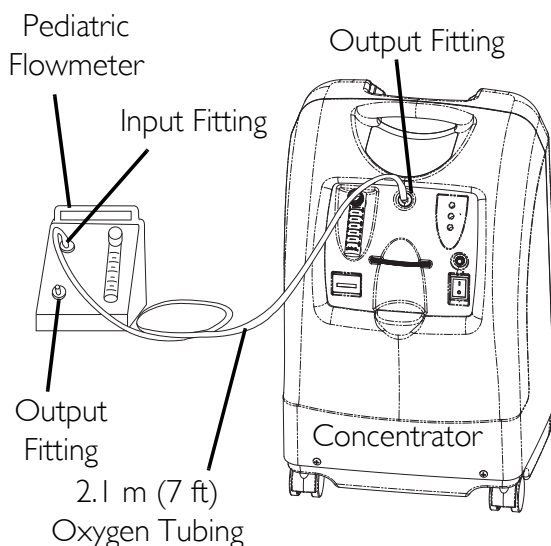
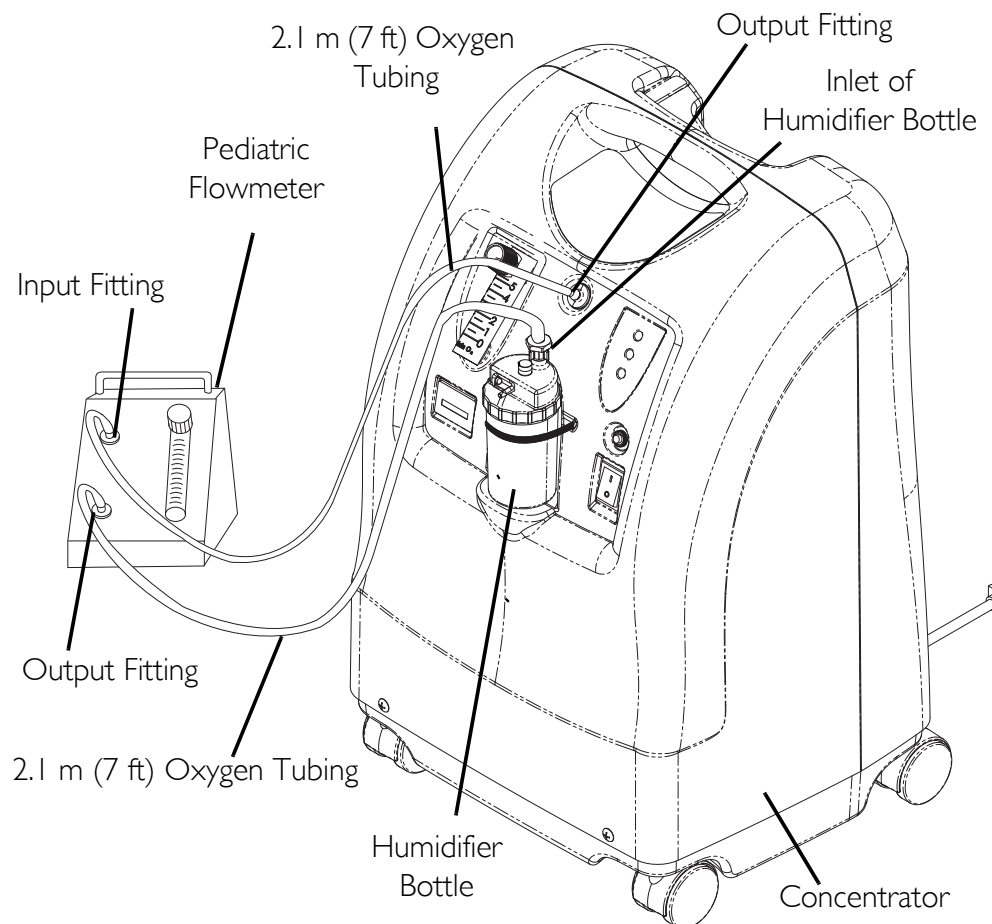

FIGURE 1 Typical Setup - Set Up If A Humidifier Bottle Is Not Prescribed
FIGURE 2 Typical Setup - Set Up With A Humidifier Bottle If Prescribed
❶ For this procedure, refer to FIGURE 1 or FIGURE 2.
❷ Allow concentrator to run a minimum of 10 min. to ensure proper concentration level.
❶ For this procedure, refer to FIGURE 1.
i For this procedure, refer to FIGURE 2.